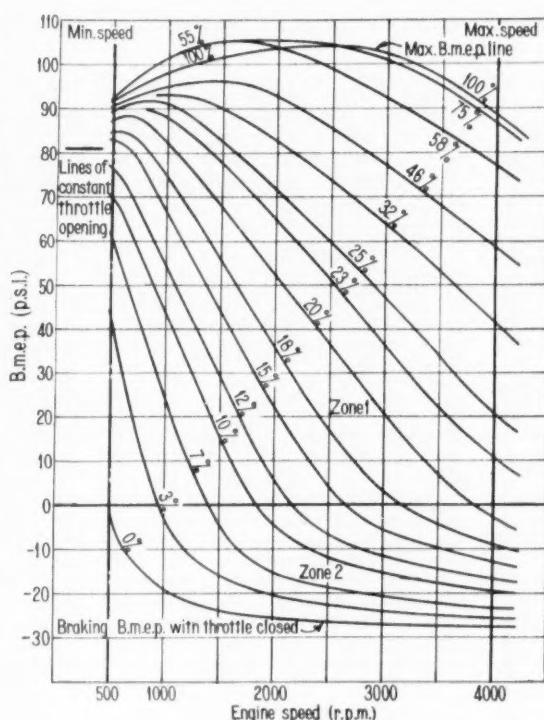

Fig. 1. Engine torque at various throttle openings
Fig. 1 indicates test curves of engine torque (b.m.e.p.) against engine speed (r.p.m.) at various throttle openings (percentage of maximum opening). Zone 1 represents the conditions when the engine is driving and Zone 2 when the engine is being driven on the overrun. The complete figure is bounded by the speed lines of 500 r.p.m.,
The line forming the lower limit of Zone 2 shows the variation in engine braking resistance with road speed and is obtained from the closed throttle line on Fig. 1. It will be noted that as the drive is in the reverse direction on the overrun, this line is plotted as  $R_e/\eta_t$ . In this case, equation (5) does not represent the motion of the vehicle.